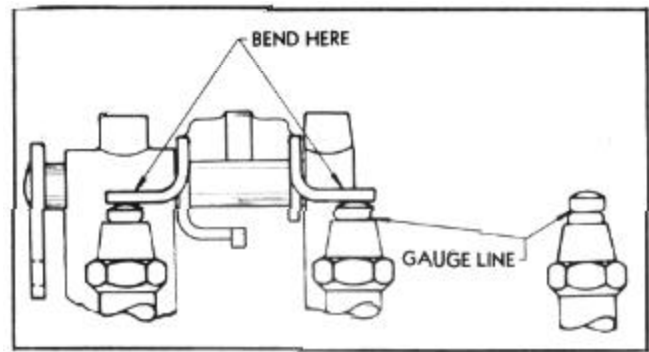

FIGURE 32
1. Bend lips on anti-percolator arm so that center of indicator line on anti-percolator valves is flush with top of anti-percolator plugs when throttle valve is closed, Figure 32.